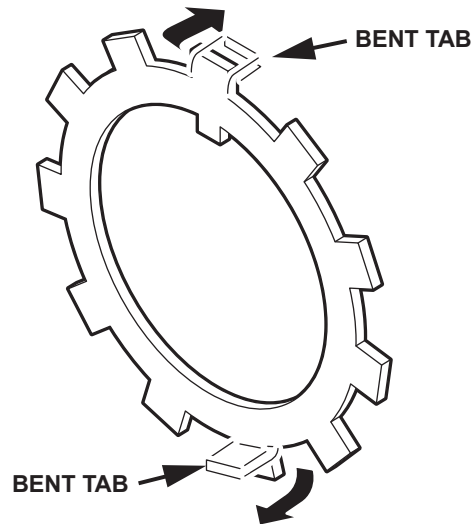

Figure 3
10. Bend two tabs on the tab lock washer 180 degrees across from each other over the outer spindle nut and inner spindle nut (see *Figure 3*).